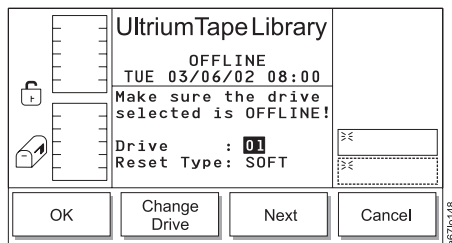

Figure 4-99. Reset Dialog
3. Press the button below the **Reset** softkey. The Reset Dialog displays with the message **Make sure the drive selected is OFFLINE!** (see Figure 4-99). Ensure that the drive has completed all operations and that no backup applications are running.
7. To return to the Reset Dialog (see Figure 4-99 on page 4-59), press the button below the **OK** softkey. To return to the Main Menu, press the button below the **OK** → **Cancel** → **Back** softkeys. Continue to press the button below the **Back** softkey until the Main Menu displays.